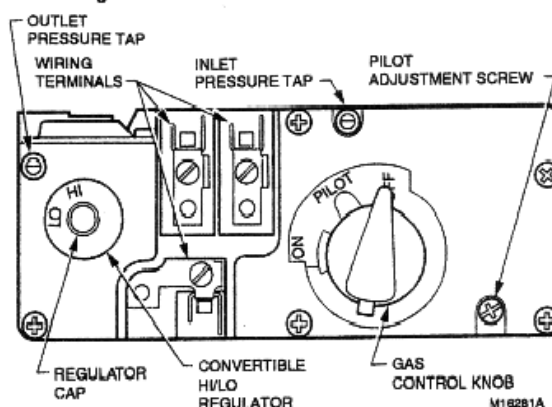

Fig. 1. Top view of a convertible High/Low combination gas control (VS8520E shown here).
2. Remove regulator cap and conversion screw. Refer to figs. 1 and 2.